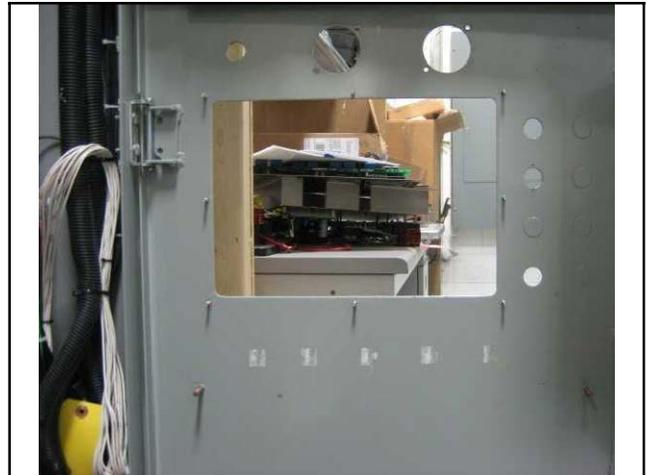

Figure 20 Controller and Lower Panel Removed
16. Remove the controller and the lower panel from the lower door of the enclosure. See Figure 20.